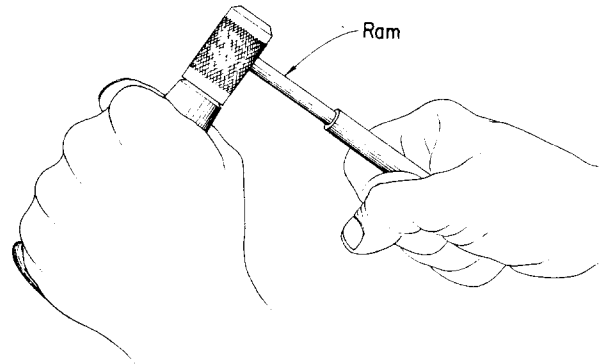

Fig. 7 – Securing Drill Holder
- (1) Install drill holder by tightly screwing it to the tool using the ram as a wrench as shown in Fig. 7. Insert masonry drill into holder.